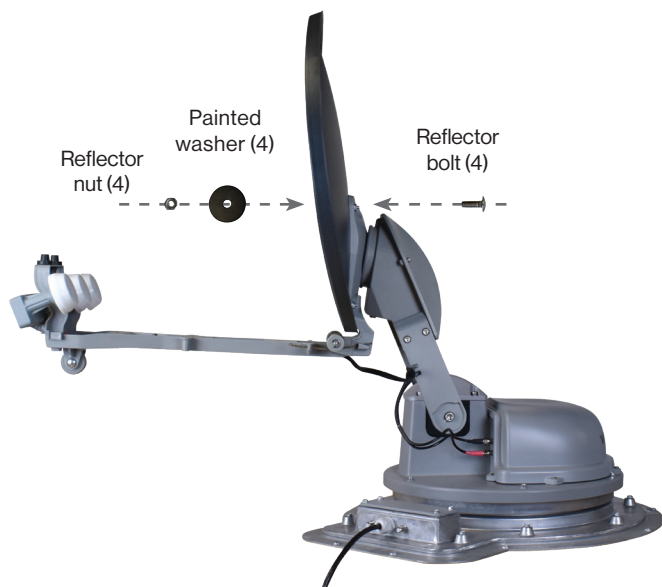

FIGURE 18. Attach reflector with four bolts (back of reflector), washers and nuts (front of reflector).
7. Line up the four holes on the reflector with the four holes on the mounting bracket. Insert a reflector bolt through one of the four holes on the back of the reflector. Insert one painted washer and thread a nyloc nut onto each bolt, tighten the nut to secure the reflector to the mounting bracket, make sure to tighten the nut until it is flush with the washer. **Overtightening will bend the washer.** Repeat process until all holes are secure. See figures 18 and 19.